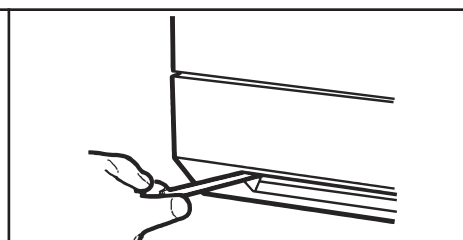

FIG 12
2. Remove the lower front cover by unscrewing two M5 screws through the air intake slots. Refer **FIG 12**. Unit is fitted with electronic switches. Ensure that the cable cannot be trapped when the heater is installed.